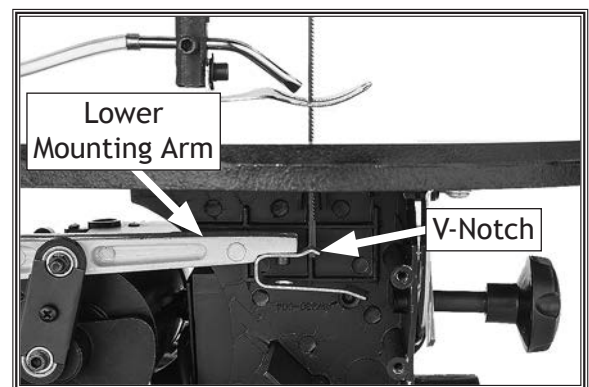

Figure 28. Lower blade mounting arm.
6. Slide saw blade through table hole so teeth face down and forward (See Figure 28).
7. Position lower pin-ends underneath V-notch in lower blade holder, as shown in Figure 28.
7. While holding the adapter, press it down and install the other adapter on the lower mounting arm (see **Figure 28** on **Page 25**).